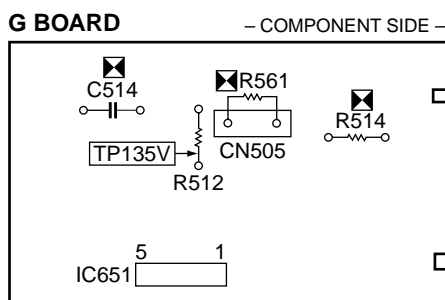

Fig. 4-2
5. If anode voltage is 30kV or lower, replace C514 of 390PF/2kV with that of 100PF/2kV, and check if the voltage is within the standard range. (Fig.4-2)
1. Repeat steps ① ~ ⑦ as above.
3. If hold down voltage is 32.5kV or lower, mount a resistor (220kΩ, 1/4W : RN) onto R561 and check again if the hold-down voltage is within the standard range. (Fig.4-2)
5. If step 4 is not satisfied, replace IC651 and repeat above steps. (Fig.4-2)
3. Connect a 220k $\Omega$  variable resistor, across pin ③ and pin ⑤ of IC651 set to maximum value.
6. Gradually turn the 220k $\Omega$  variable resistor, and check if OVP works properly when the voltage of TP135V is between 139.0 ~ 151.5V. **(Fig.4-2)**